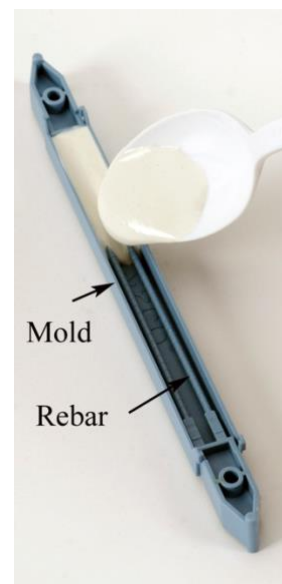

Figure 3: Making Cast Beams
where the height (h) is the dimension that is parallel to the applied force, and the base (b) is the dimension perpendicular to the applied force, as shown in Figure 3. Combining, yields
1. Snap the rebar into the mold (see Figure 3). Pour all of the beams from the same batch. Tap the sides to remove bubbles.